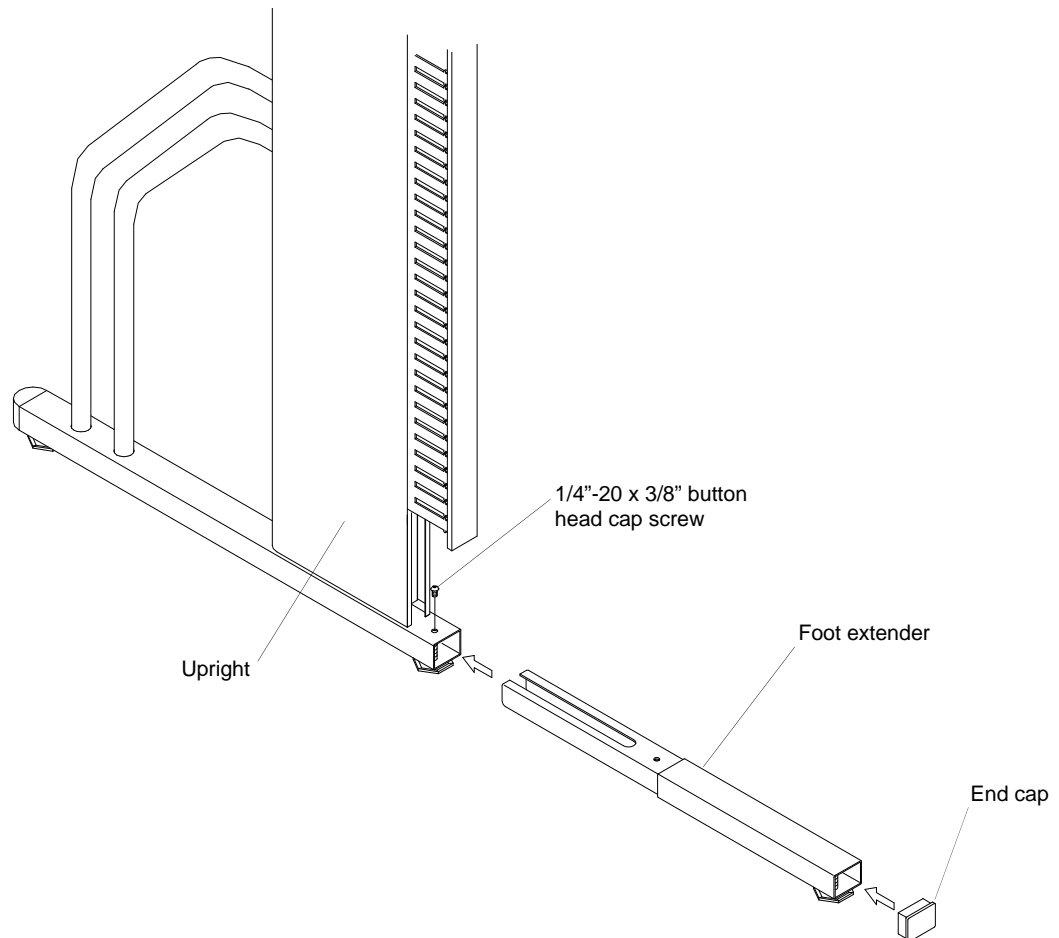

Figure 1
1. Remove the end cap from the back of the foot and install the **Foot Extender**. Fasten it in place with the 1/4"-20 x 3/8" button head cap screw. See **Figure 1**.
See **Figure 1**.